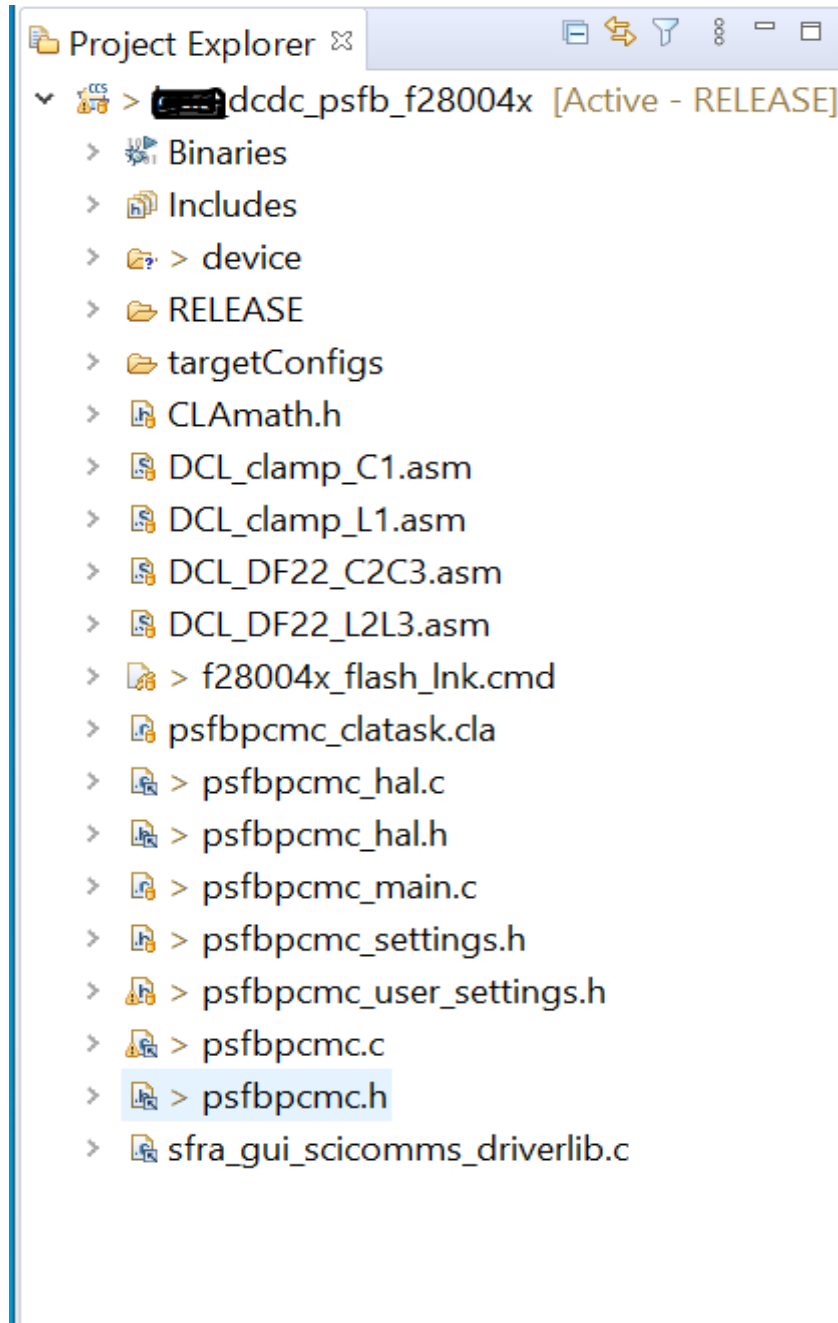

Figure 9 – Project Explorer view
1. Verify the hardware (h/w) set-up: Insert the F28004x controlCARD in the 100-pin DIMM connector. Follow the PSFB hardware user-guide and connect the required low voltage bench power supplies to provide all the necessary 12VDC and 5VDC bias power for this h/w. Connect a variable output isolated high voltage DC power source (0 - 600V, 4kW power rating) across the high voltage input connector on the board. Then connect an electronic load (60V, 4kW power rating) across the 54V output connector on the board. Set the electronic load in constant resistor (CR) mode for this Lab1 functionality verification and apply an initial load of 10 ohms. Connect an USB cable between the PC and controlCARD. Do not turn ON any of the power supplies at this time.
3. Locate the solution package and import the project “dcdc\_psf\_F28004x” in CCS. In the Project Explorer window on the left, click on the “<” sign to the left of Project. Your project window view will look like the following in Figure 9.